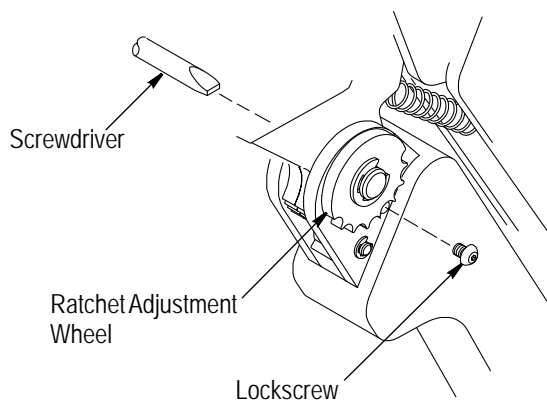

Figure 5
7. RATCHET (Crimp Height) ADJUSTMENT (Figure 5)